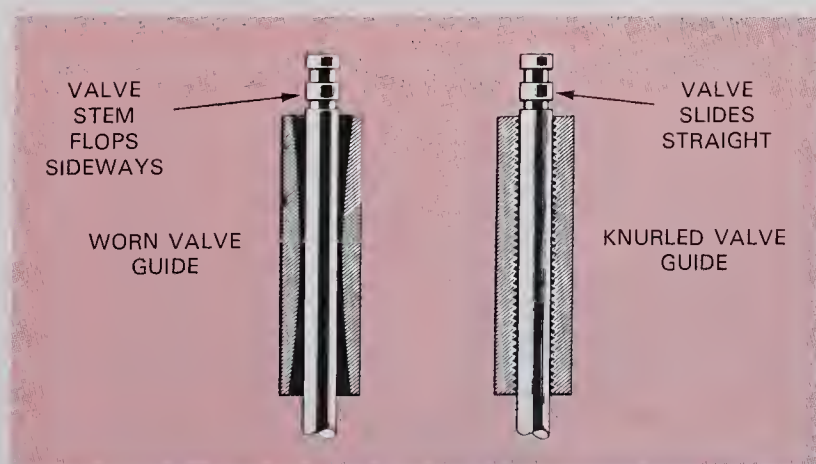

Fig. 48-12. Knurling can be used to decrease inside diameter of valve guide thus restoring proper stem-to-guide clearance. (TRW)
1. **KNURLING VALVE GUIDE** (machine shop tool used to press indentations in guide to reduce its inside diameter), Fig. 48-12.